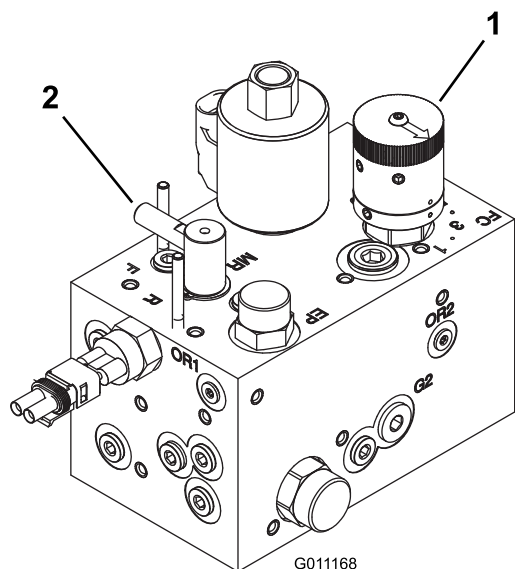

Figure 78
3. Rotate the backlap control to the backlap position (R). Rotate the reel speed control to position 1 (Figure 78).